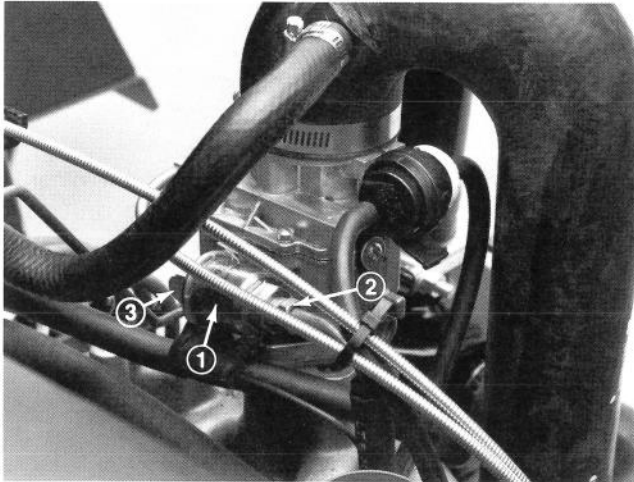

Figure 37
1. Disconnect elbow fitting from rear of fuel filter (Fig. 37).
2. Disconnect front of filter from elbow fitting (Fig. 37).